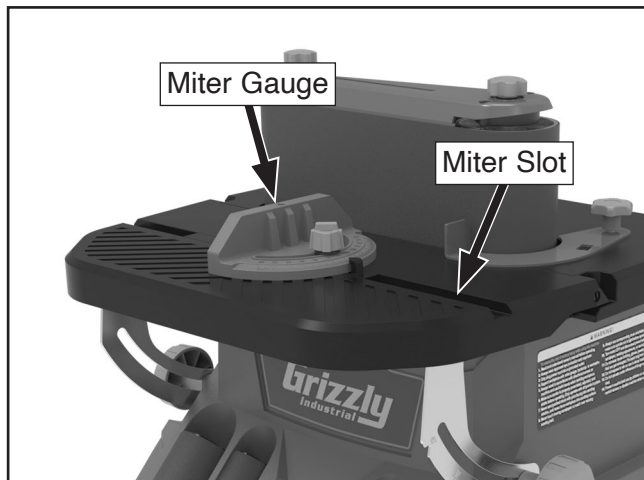

Figure 26. Miter gauge inserted into miter slot.
- If workpiece shape or size cannot be safely supported with backstop, instead insert miter gauge into miter slot (see **Figure 26**) or use some other holding fixture, if possible.